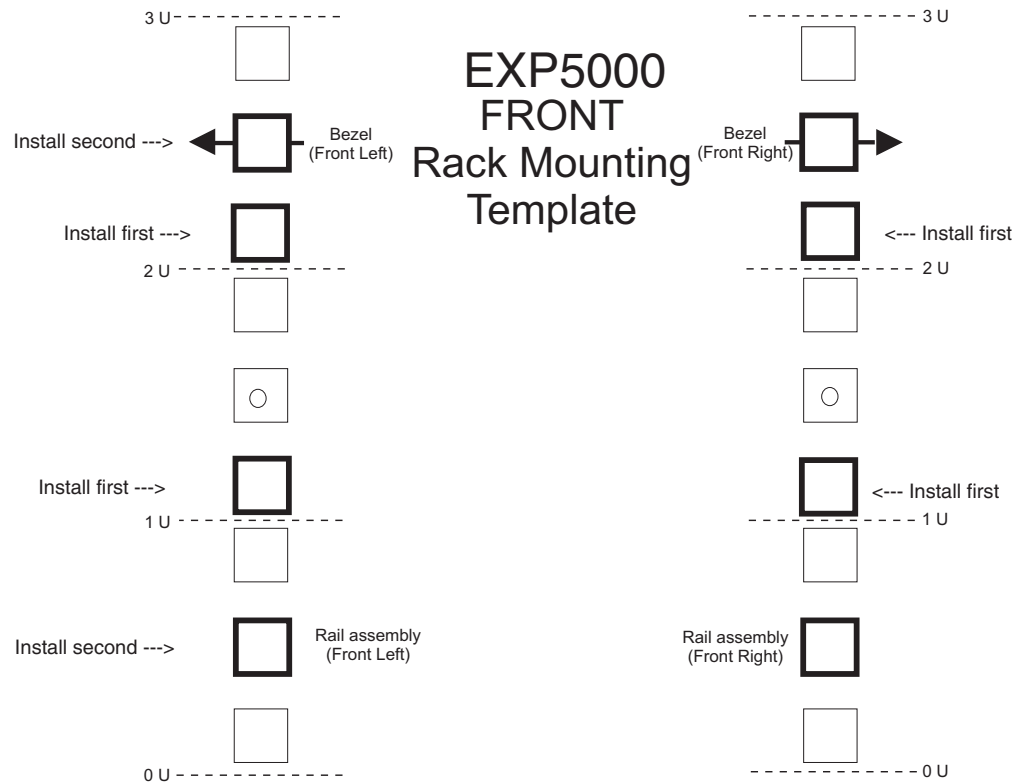
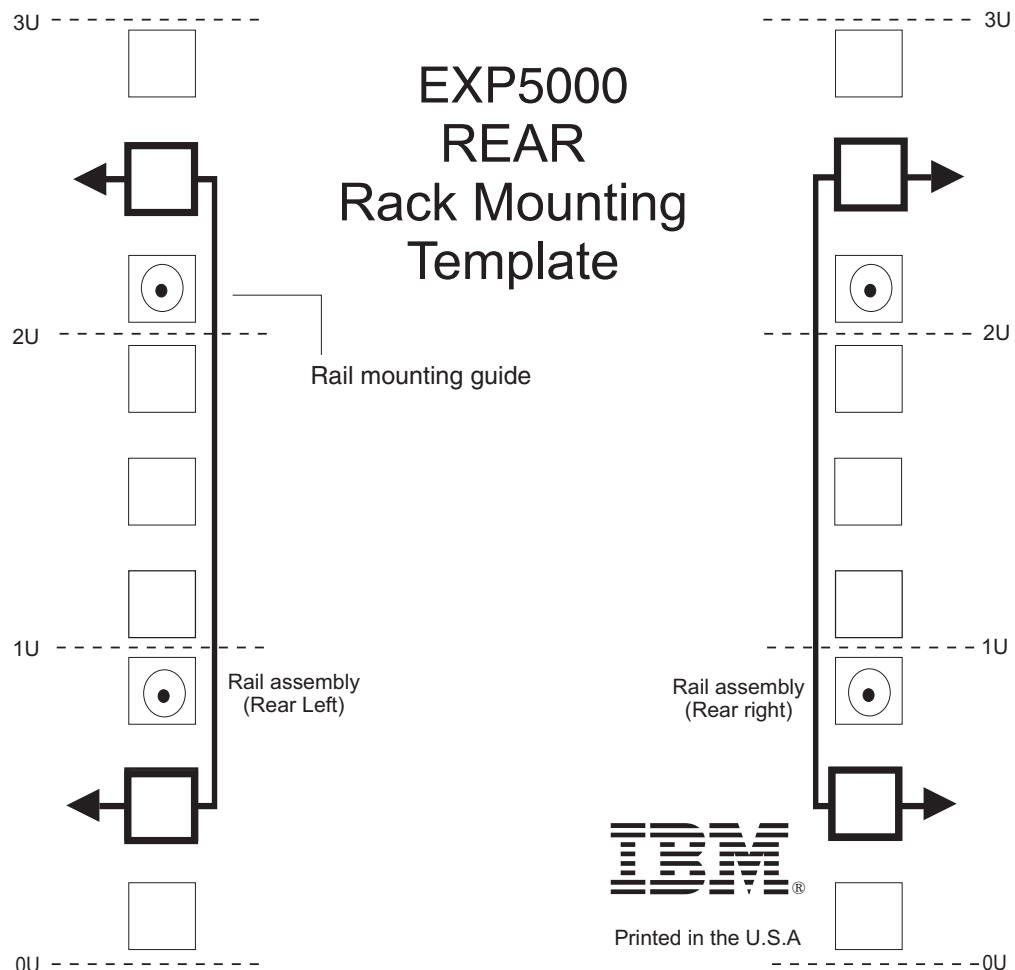

Figure 9. Front rack mounting template
Figure 10. Rear rack mounting template
Use the following templates (Figure 9 on page 25 and Figure 10 on page 26) to identify the proper locations for inserting M5 screws when mounting the support rails and EXP5000 to a rack. The locations for the M5 screws are highlighted in the templates.
Attention: Use the rack mounting template provided in Figure 9 on page 25 and Figure 10 on page 26 to locate the proper rack mounting holes for installing the support rails into the rack.
6. Hold the back of the rail against the inside of the rack-mounting flange. Make sure the rail mounting guide pins are in the correct holes. See Figure 10 on page 26 for an illustration.
Note: Be sure to install the screws labeled *install first* in Figure 9 on page 25.